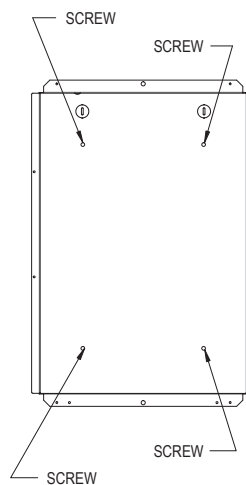

FIG. 6
5. Place the frame against the wall, level and tighten with four (4) wood screws (not included) into the holes provided for this purpose (see figure 6).